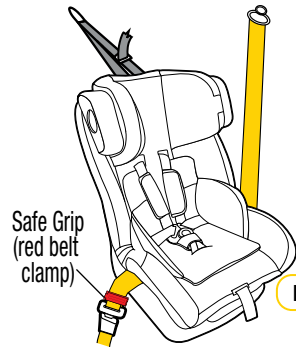

Figure 8
Step 6: Pull to tighten to remove all the slack, from the upper anchorage strap. Create a firm installation by tightening the upper anchorage strap (refer to Figure 8).